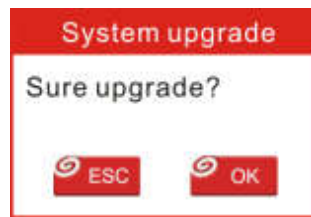

Figure 7-6
10. Once all steps are complete, reinsert the memory card into the tool and power the tool via USB cable or via OBD II cable. A dialog box (Note: If only diagnostic software is updated and no firmware package is downloaded, this box will not appear) prompting you to update will pop up on the screen (See figure 7-6), select [OK].